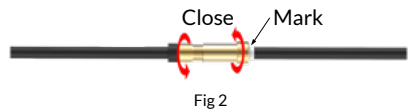

Fig 2
- Retract the liner back slightly and position the collet by tightening it to the liner at the marked position (Fig 2).